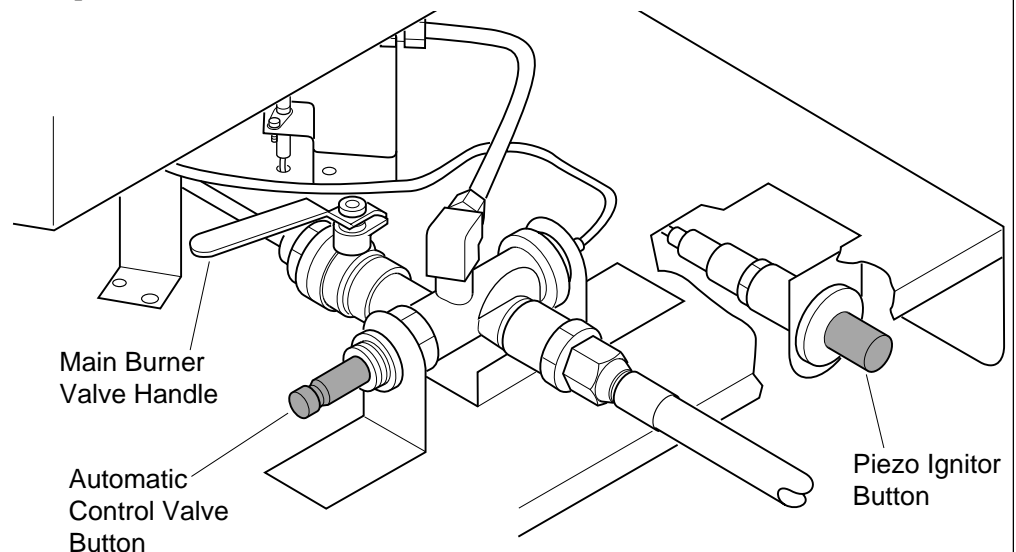

Figure 4 - Main Burner Valve Handle, Automatic Control Valve Button, and Piezo Ignitor Button Locations
4. Push in and hold automatic control valve button (see Figure 4). Push piezo ignitor button (see Figure 4). You may need to push the piezo ignitor button 3-8 times until the pilot lights. *Note:* Hose may be filled with air. If so, keep automatic control valve button pressed and wait 20 seconds before pressing ignitor button again. When pilot lights, keep automatic control valve button pushed in. Release button after 30 seconds.